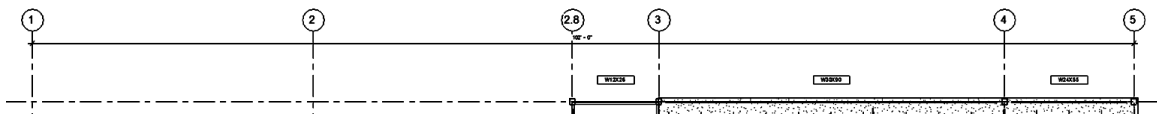

FIGURE 7-6.2 Overall dimension placed
5. Select a spot just below the grid bubbles to locate the string of dimensions (pick 3 of 3). See Figure 7-6.2.